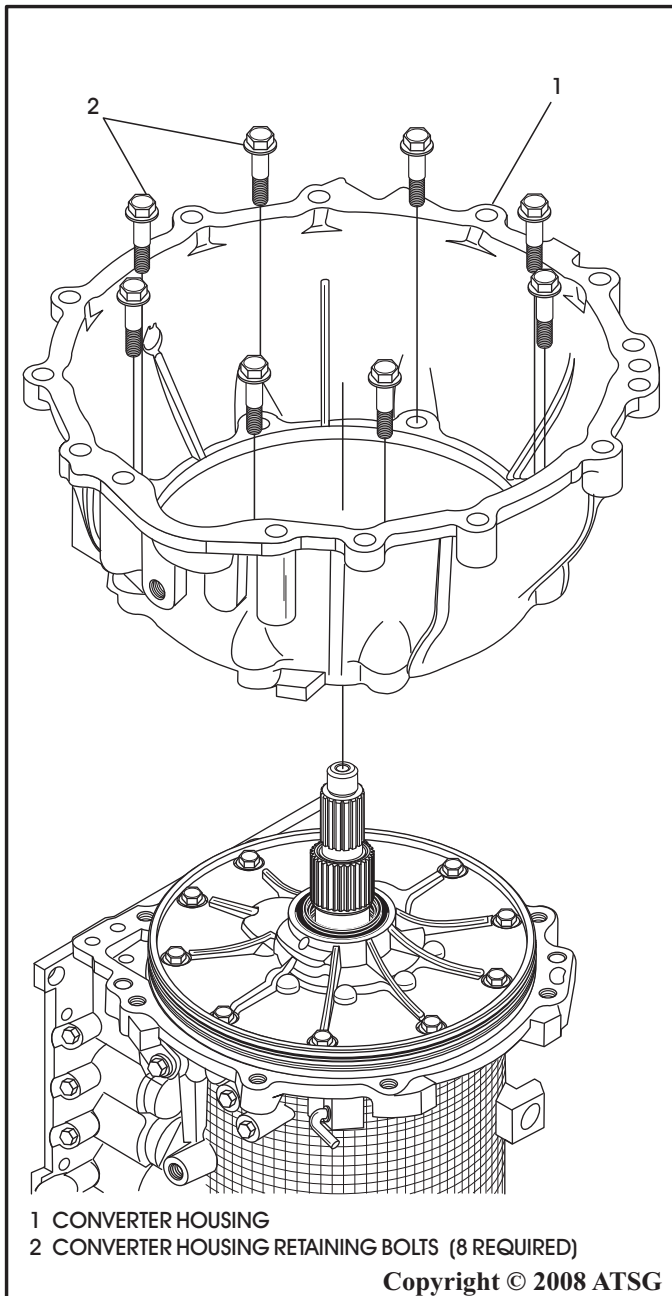

Figure 234
6. Install the converter housing onto transmission case, as shown in Figure 234, and install the eight retaining bolts.